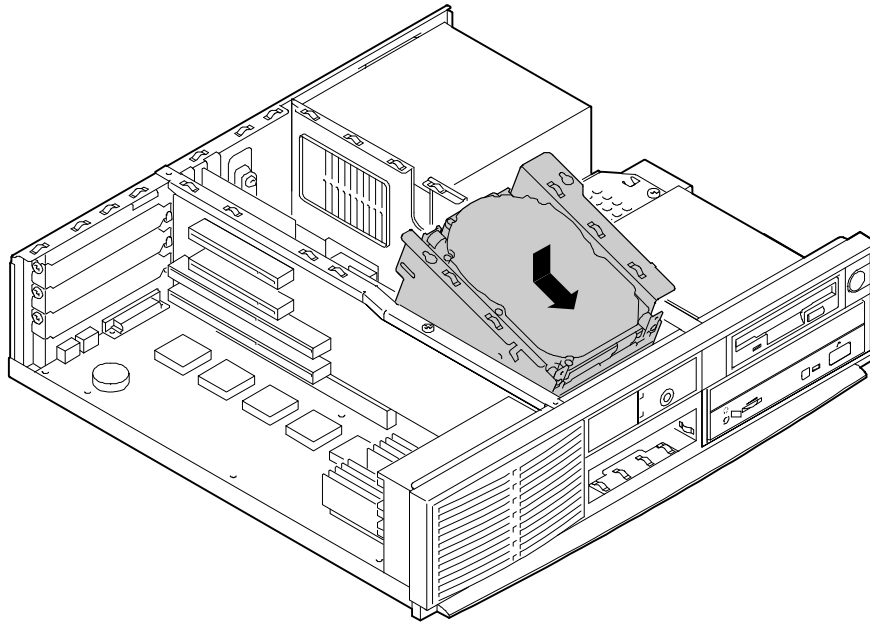

Figure 4-15 Mounting Drives and Installing Drive Bracket
6. Place the drive bracket into the system unit, as Figure 4-15 shows.